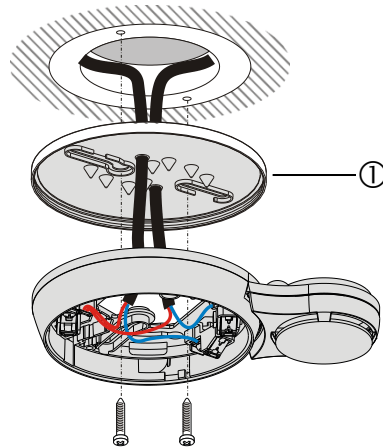

Fig. 6
- **Detector base seal RS720 (Fig. 6)**